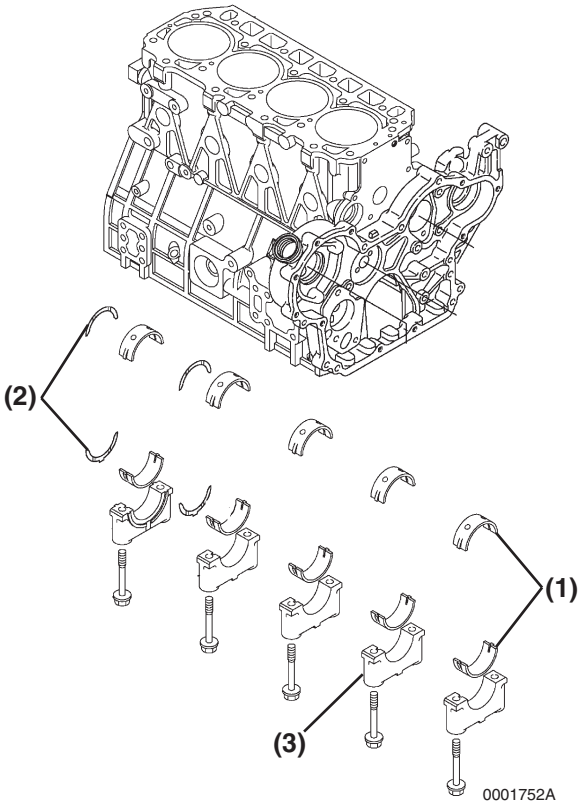

Figure 6-107
4. Remove the main bearing caps (**Figure 6-107, (3)**). Be sure to note the markings on the main bearing caps, or mark them yourself, so they can be reinstalled in the same order as they were removed. Do not remove the bearing inserts at this time.
7. Remove the bearing inserts (**Figure 6-107, (1)**) and thrust bearings (**Figure 6-107, (2)**).